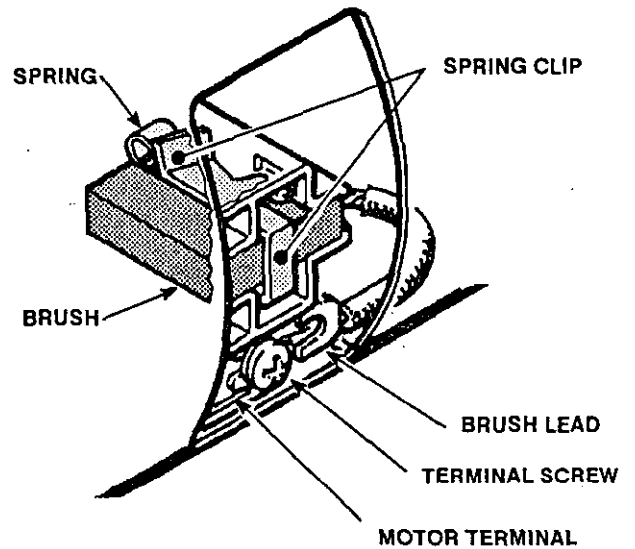

Fig 13-3
NOTE: Replace the brushes when they have worn to less than 1/2 in. See STEP 1, Fig 13-3. The brushes wear differently on each side of the motor, so check them both and replace both at the same time. Brush Repair Kit 220-853 is available.
3. Loosen the terminal screw. Pull the brush lead away, leaving the motor lead in place. Remove the brush and spring. See Fig 13-3.